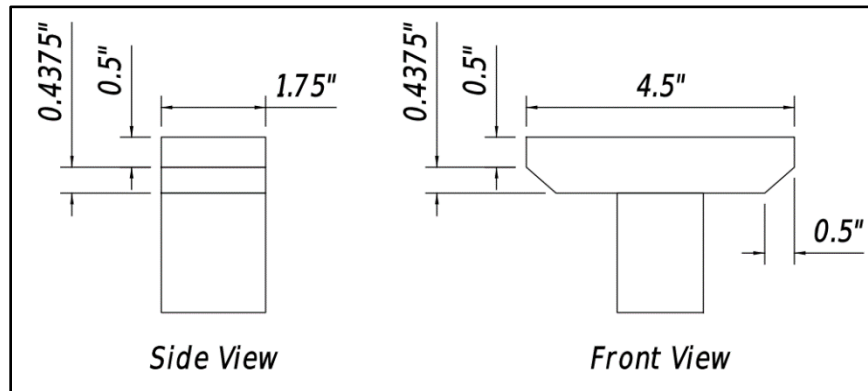

Figure 8. Support Detail
- f) Maximum width of the bridge shall be no more than 4.5 inches to fit on Pitsco Tester, refer to Figure 8.